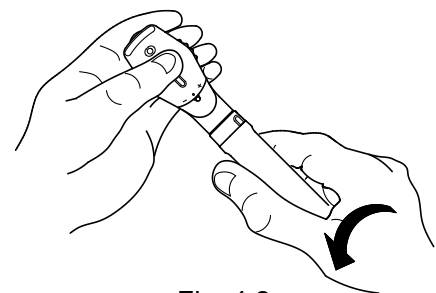
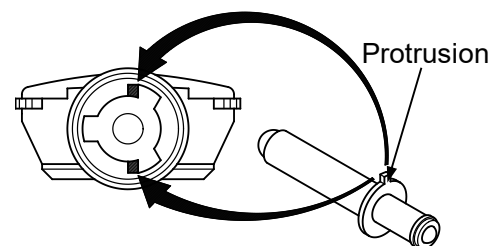

Fig. 4.2
Fig. 4.3
- (1) Holding the Head in one hand and the Handle in the other, turn the Handle counter-clockwise to detach from the Head (see Fig. 4.2).
- (2) Remove the Lightbulb from the Head by pulling the tip which can be found at the bottom of the Head.
- (3) Check the Lightbulb, and if the filament has blown out, replace with a new bulb.
- (4) Insert the new Lightbulb until it comes to a stop. When inserting the bulb, align the protrusion on the bulb with either of the grooves located at the bottom of the Head (see Fig. 4.3). Pay close attention so as not to touch the glass part of the bulb.
- (5) Attach the Head and Handle by screwing the Handle clockwise.